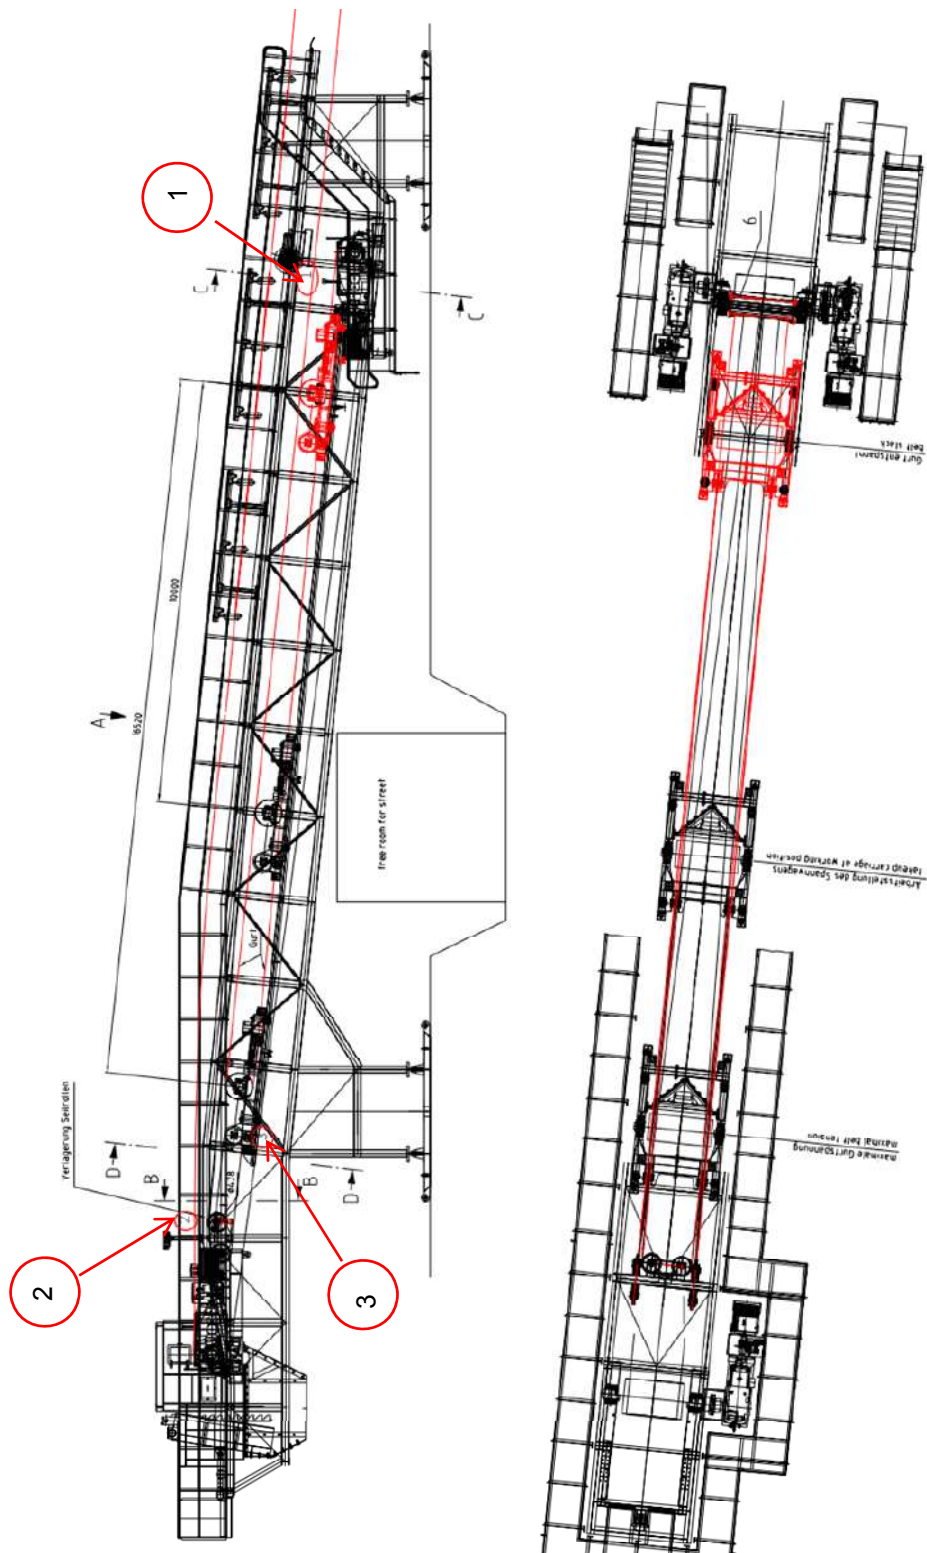

Figure 19: Rope scheme
- Reave a new rope according to the following scheme and Figure 19: